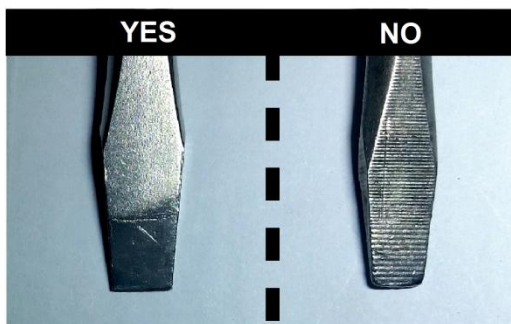

Figure 3 – Appropriate Bit Shape
- 3) Select a new, square bladed flat tip screwdriver large enough to span the entire head of the outlet pressure screw (see Figures 3 and 4).